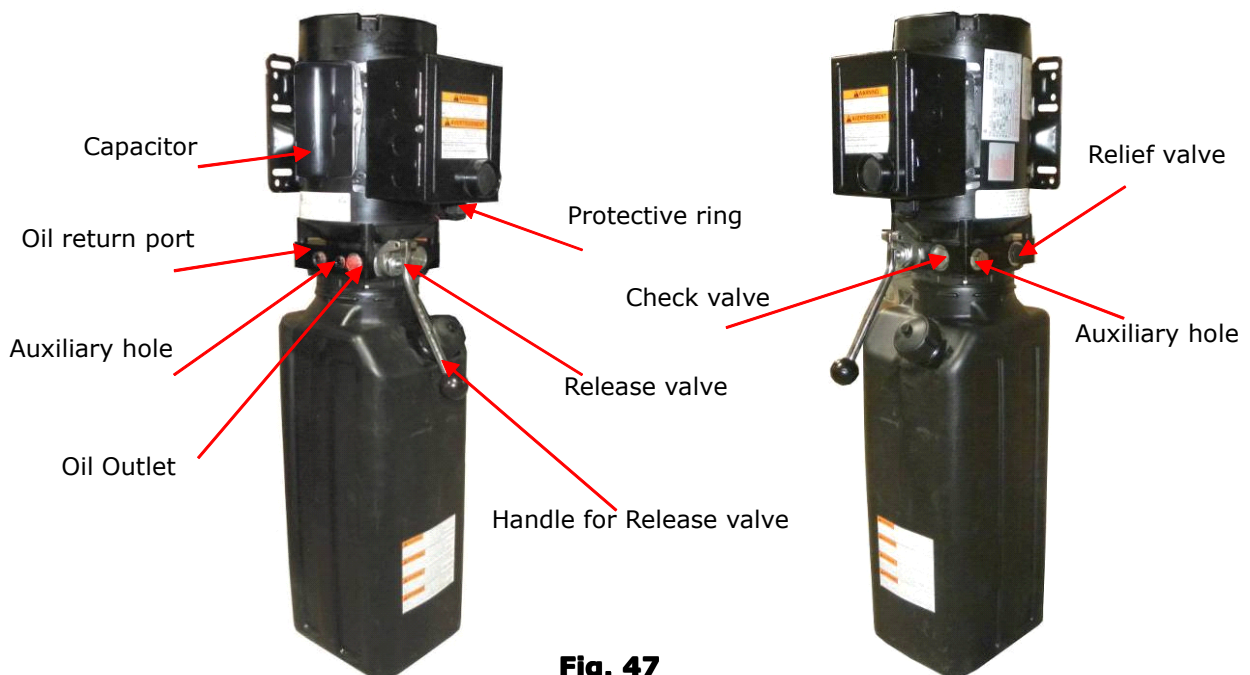

Fig. 47
a. SPX manual power unit, 220V/50HZ, Single phase (See Fig. 47)